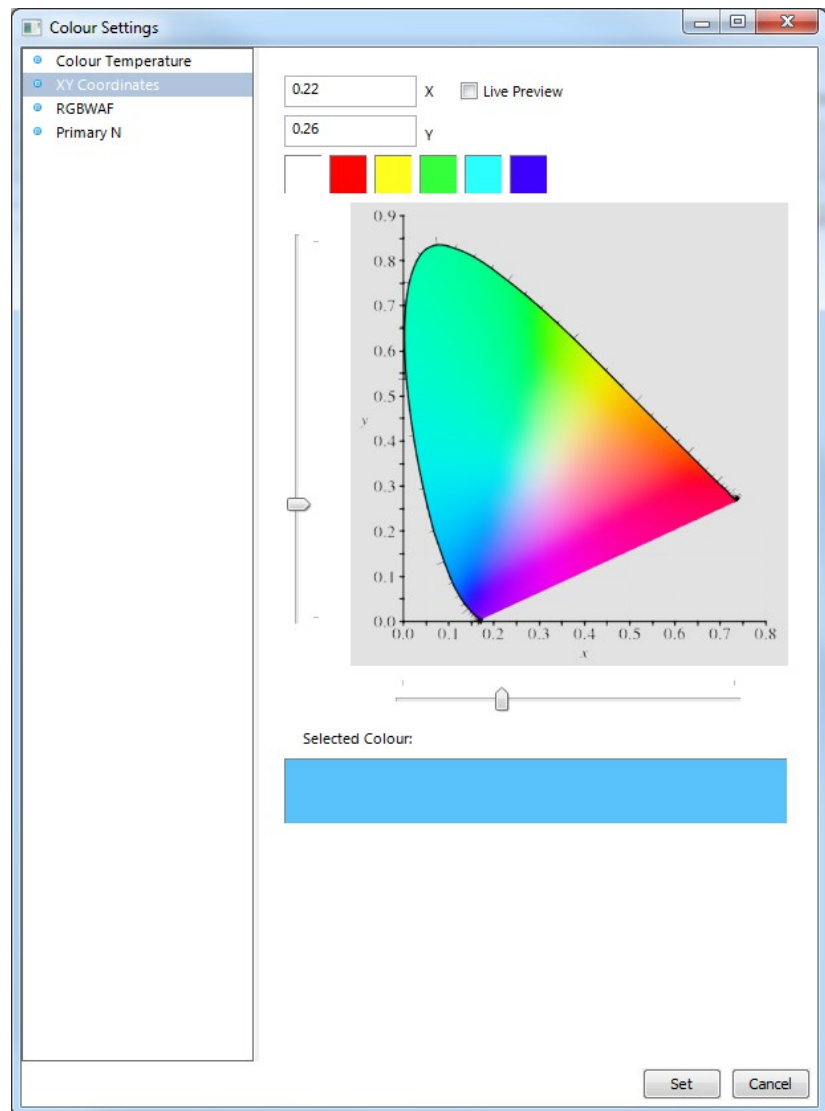

Figure 207: Scene colour selection for devices supporting colour type XY Coordinates.
When clicking on the  button a colour picker dialog as shown in Figure 207 appears. The left side of the dialog shows the colour type(s) supported by the ballast. For ballasts supporting multiple colour types, first choose the appropriate type. Depending on the selected type the colour information is configured as follows:
- **XY Coordinates** (see Figure 207): This colour type allows choosing a colour in the CIE 1931 colour space. Either manually enter the x and y coordinate of the scene colour within CIE 1931 colour space or pick the colour by clicking in the colour diagram on the left side of the dialog. The last six colour values used are shown in the history below the colour diagram for quick reference.